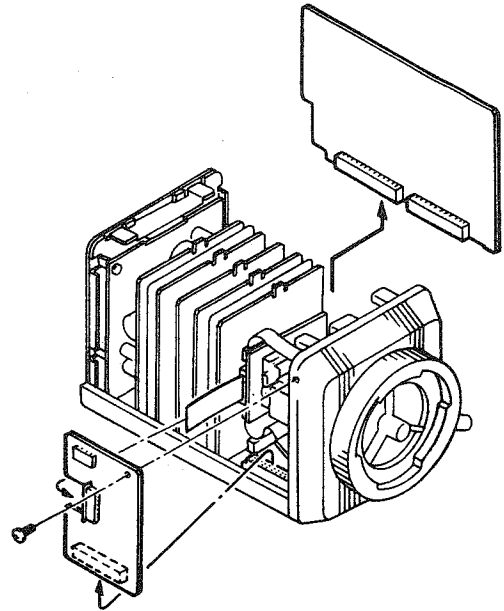

Fig. 4 Removal of DRV board
- 4) For removal of the DRV board, remove the screw and unlock the FPC connector, then remove the DRV board upward at Fig 4.